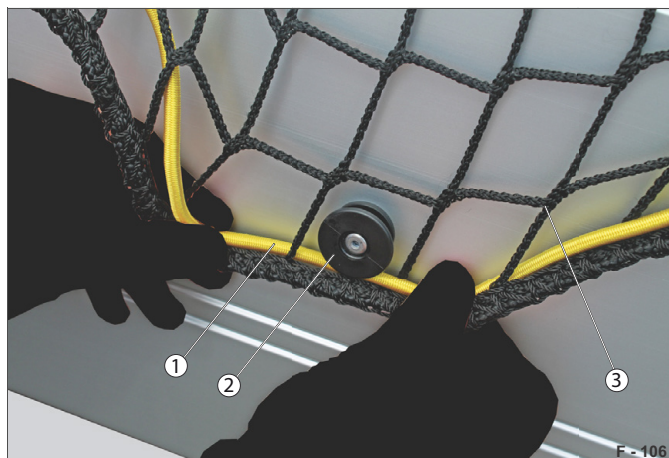

Fig. 104 Secure cover net
- Tension the elastic cable (Fig. 104 /1) around the round buttons in turn (Fig. 104 /2).